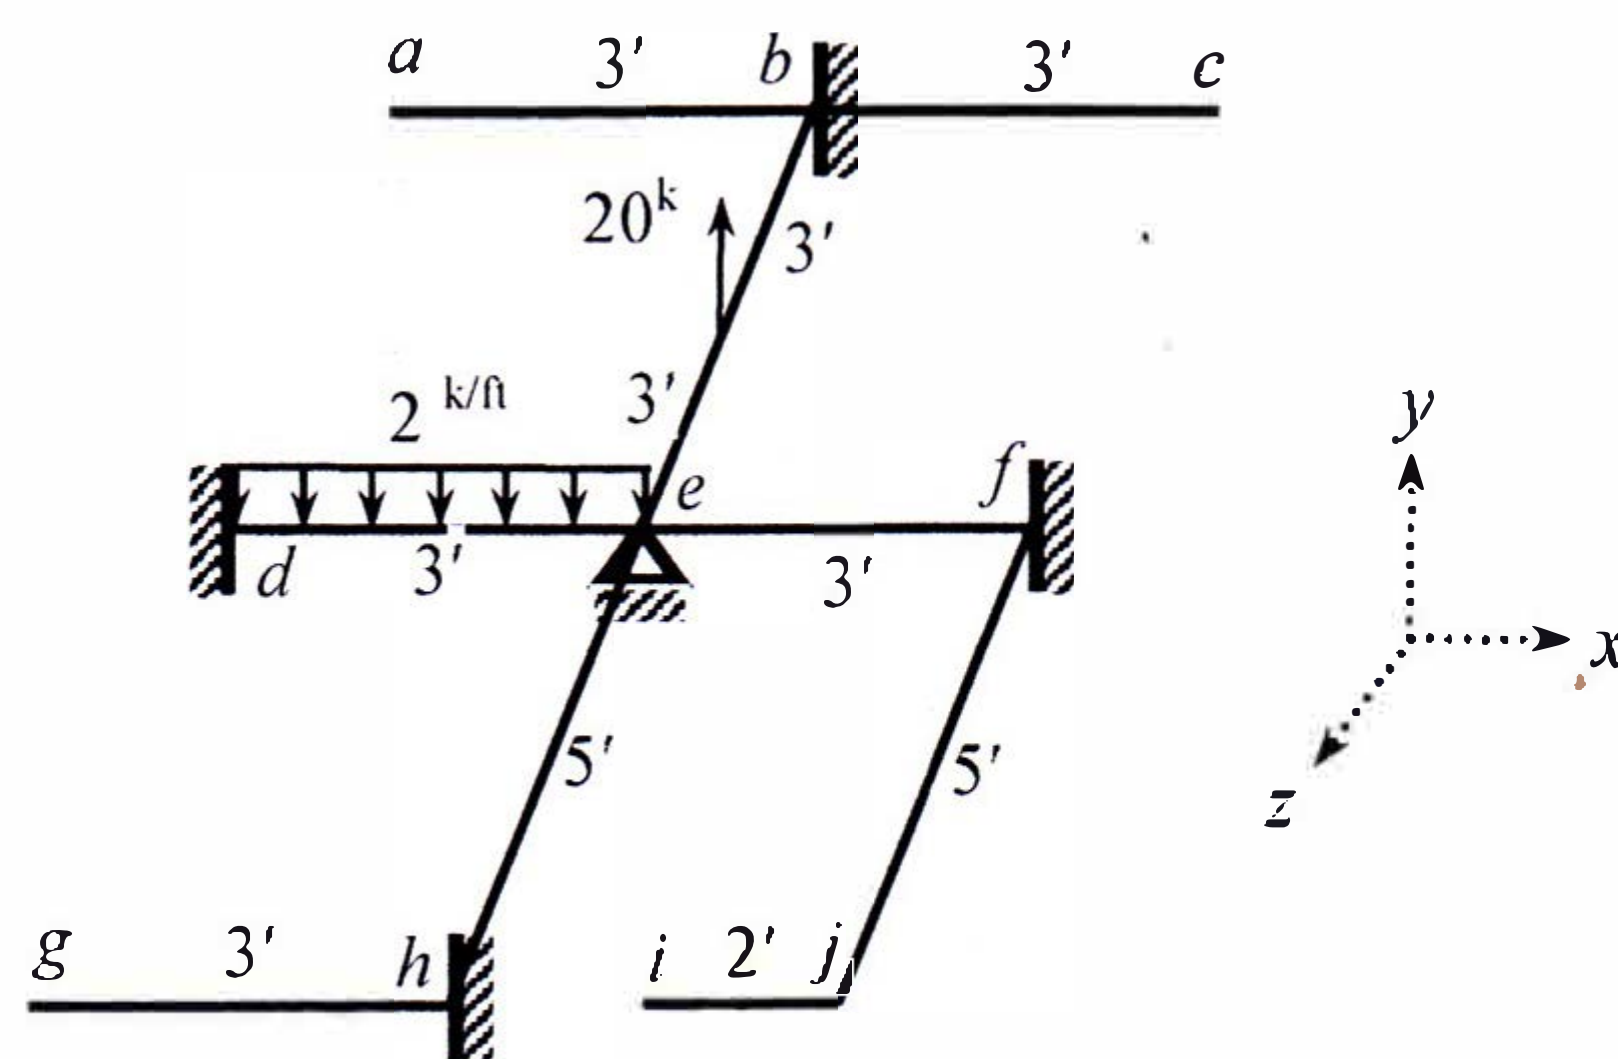

Fig. 4
4. Use Stiffness Method to calculate rotations of joint *e* of the frame *abcdefghij* shown in *Fig.4* [Given: $EI = 20 \times 10^3$ k-ft² and $GJ = 5 \times 10^3$ k-ft²].